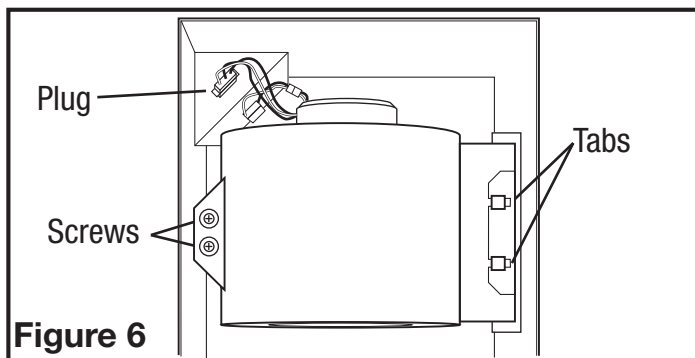
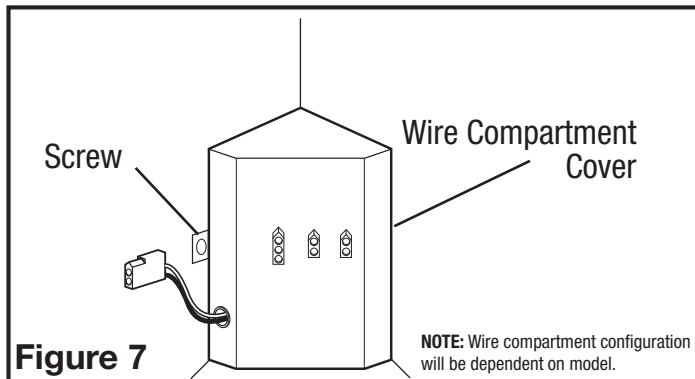

Figure 6
Figure 7
- 1b. Internal Wire Compartment: If the motor is already installed in the housing, remove the two screws holding the blower assembly in place. Lift up on the assembly and slide it out of the tabs on the housing (**Figure 6**). Remove the wire compartment cover screw and place the cover in a secure place (**Figure 7**).